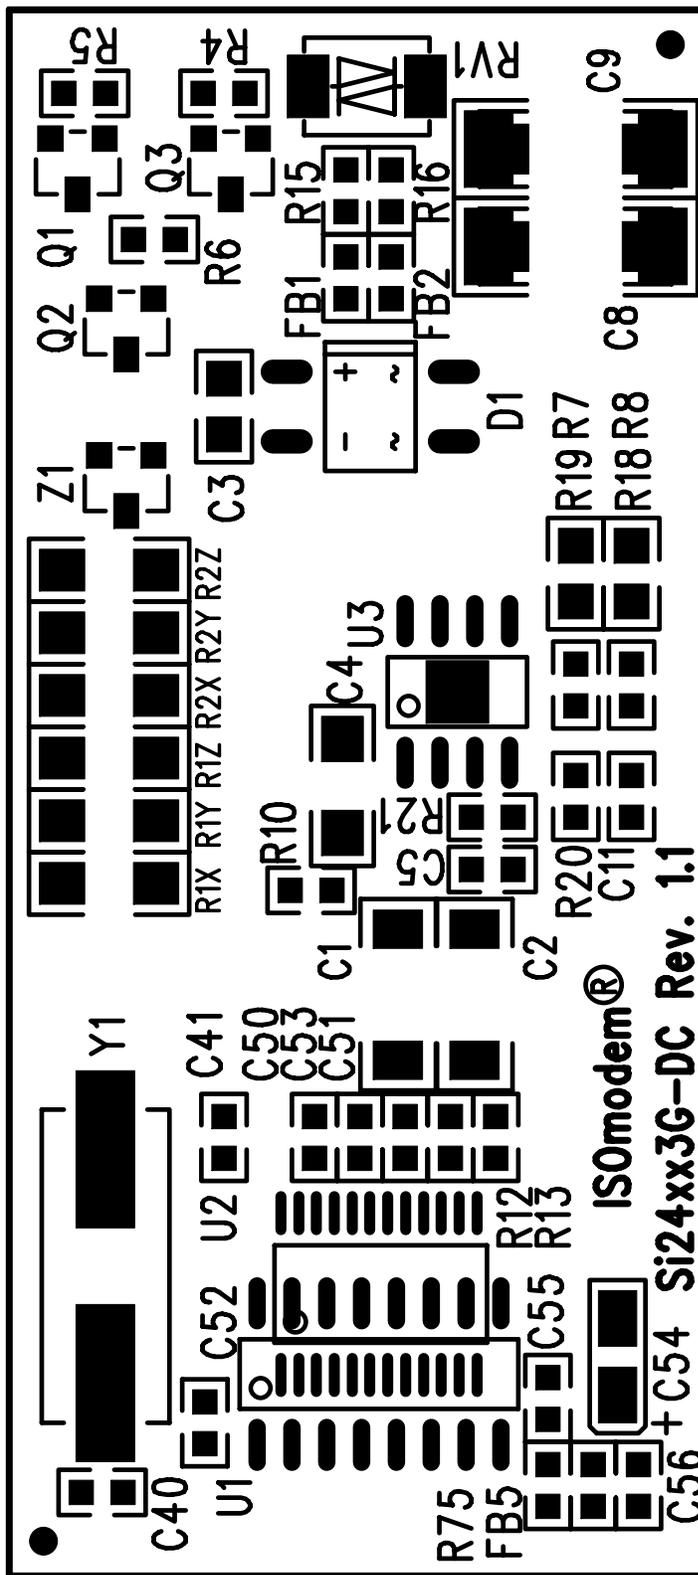

Figure 38. Daughter Card Component Side
4. Place and group the following components around U3: C4, R18, R19, R20, R21, C5, C11, R7, and R8. These components should form the critical "inner circle" of components around U2. Refer to Figure 38 on page 173 for a sample placement.